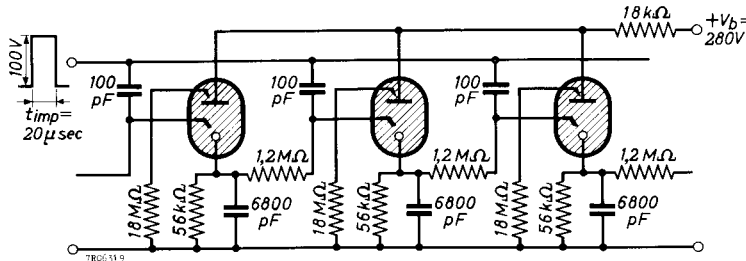

Fig.13b. Recommended counting circuit.
3) Circuit Fig.13b.
4) Circuit Fig.13b; see also operational notes.
6. If square starter pulses are used, attention should be paid to the trailing edge of the pulse at high amplitudes. When using the circuit of Fig.13b with pulses of more than 100 V amplitude, a trailing edge as defined by a time constant of at least $50\ \mu\text{sec}$ must be used. In special cases the tube manufacturer should be consulted.